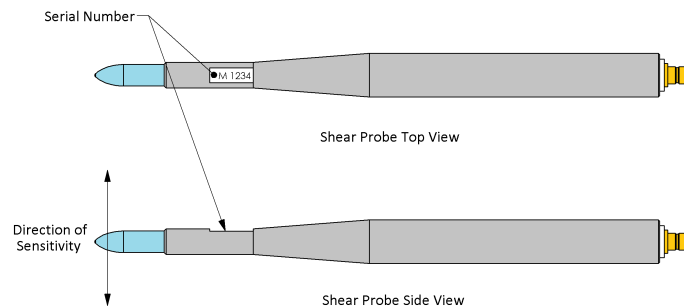

Figure 13: Shear probe direction of sensitivity.
3. As you tighten the probe holders, ensure that the shear probes are oriented correctly. Typically, one shear probe is aligned with the instrument's z-axis, and the other with its y-axis (Figure 2). The sensitivity on a shear probe is in the direction normal to the flat section of the sensor's serial number (Figure 13). Note: The orientation of other microstruc-